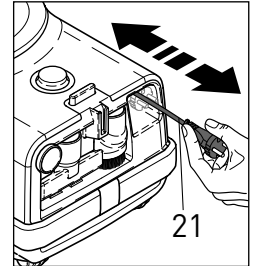
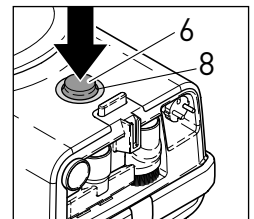

Figure 2
Figure 4
BEFORE YOU USE YOUR AIRBELT D - Figures 2, 3 & 4
D4 Premium Users - Figures 2, 3 & 4
1. Grasp the plug and pull the power cord (21) out from the power cable recess (figure 2). The power cord should be unwound from the cable reel at least two thirds of its length or approx. twenty-five feet. Do not over-extend the cord. **DO NOT PLUG INTO POWER SOURCE UNTIL STEP 3 BELOW.**
4. Press the on/off power knob on the base of the canister (6) gently with your foot or hand (figure 4). The blue light (8) will illuminate indicating that the power is on. The blue LED light (8) around the on/off knob (6) will pick up speed as the suction on the canister increases (figure 4). It will reach full power in a few seconds.
D1 Turbo Users - Figures 2 & 4
2. Grip the handle of the hose (1).
4. Press the on/off power knob on the base of the canister (6) gently with your foot or hand (figure 4). The blue light (8) will illuminate indicating that the power is on. Rotate the power knob (6), which also functions as suction adjustment, to increase or decrease to the desired suction.
5. **BEFORE PROCEEDING WITH FURTHER ASSEMBLY AND USE**, turn off the vacuum with the on/off power knob on the canister (6) **AND** unplug the unit from the wall outlet.